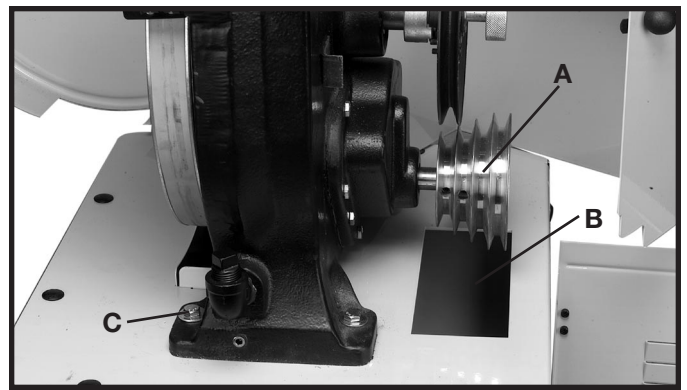

Fig. 23
1. Place the band saw on top of the cabinet as shown in Fig. 23. **NOTE: MAKE SURE THE PULLEY (A) FIG. 23, IS ON THE SIDE OF THE CABINET WITH THE BELT OPENING (B).**
3. Place 5/16" flat washers on a 5/16-18x1½" hex head screws. Insert the screws through the holes (C) in the saw and the cabinet.